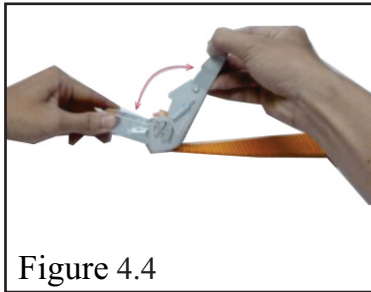
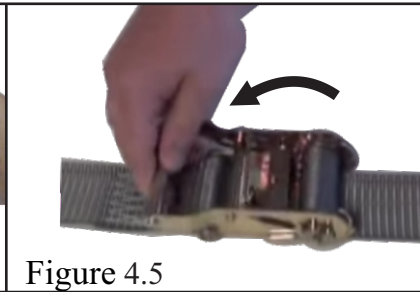

Figure 4.4
Figure 4.5
- Flip the ratchet up and down to tighten the strap (Figure 4.4). Once tightened, fold the ratchet down to lock and keep it during the operation (Figure 4.5).